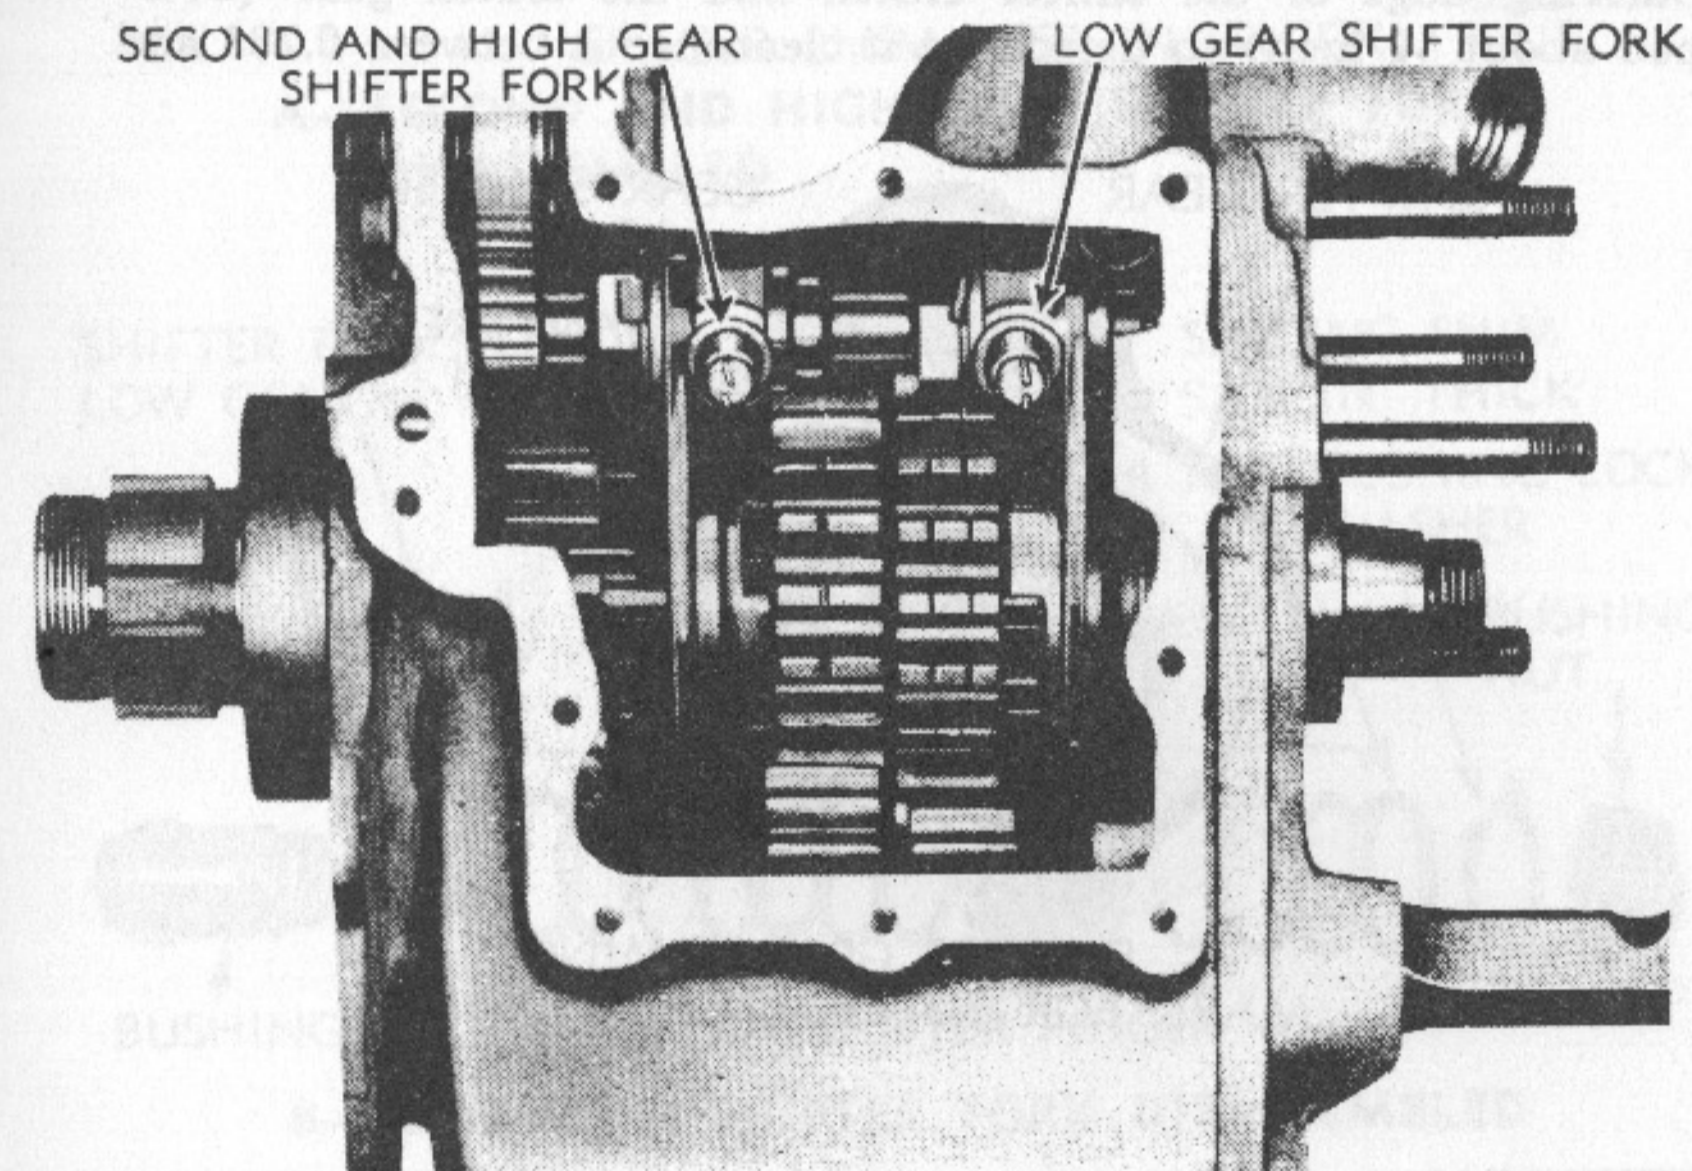

Figure 107—Shifter Forks Installed
(6) Reinstall side cover and gasket and securely tighten the five cover screws and the two stud nuts. Make sure that side cover rubber oil seal is in place on countershaft. Press inward on countershaft gear to compress the starter clutch spring; then engage the starter clutch cams under the tripper bolt heads by turning the countershaft so that crank bolt notch is in upward position. This permits easy assembly of end cover to case. Shifter forks and shifter cam can now be installed.
f. **Install Shifter Forks and Shifter Cam** (fig. 107). When installing the shifter forks, make sure they correctly locate on the shaft with relation to the slots in the shifter cam and the grooves in the shifter clutches. The shifter fork spacing (adjusting) washers may have to be changed in order to obtain the correct distances between
(1) **INSTALL SHIFTER FORK ASSEMBLIES** (fig. 107). Pass the shifter shaft through hole in right side of case and through holes in the shifter fork bushings. The forks must be engaged with the grooves in the shifter clutches.